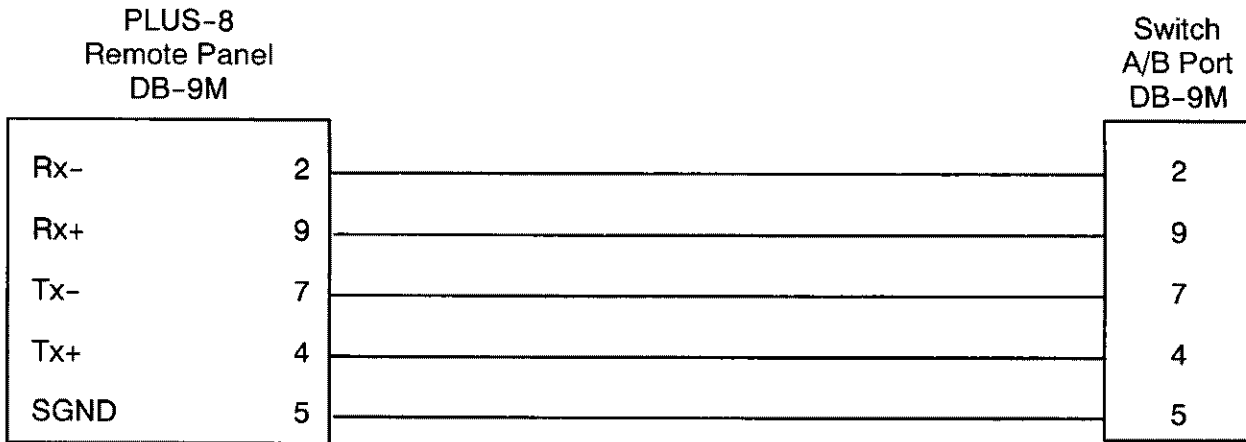

FIGURE 12-10. PLUS-8 PANEL TO SWITCH CABLE PINOUT (P1)
This pinout is to be used in conjunction with the Digi ClassicBoard 8 Octa Cable Assembly pinout as described in figure 12-13. If using the Stargate PLUS-8 peripheral interface board refer to figures 12-10 and 12-11.
- 19 Connect cable from the corresponding port of the peripheral interface board of the **B** PC-RCU system to port B on its corresponding A/B switch card. Repeat for each peripheral. Refer to figure 12-3 for diagram. If using the Star Gate PLUS-8 refer to figure 12-10 for pinout of this cable. If using the Digi International ClassicBoard 8 no additional cable is needed. Connect the corresponding 9-pin connector (figure 12-13) from the Octa-Cable Assembly directly to the corresponding port on the switch card.
- 21 Connect cable from the corresponding port of the peripheral interface board of the **A** PC-RCU system to port A on its corresponding A/B switch card. Repeat for each peripheral. Refer to figure 12-3 for diagram. If using the Star Gate PLUS-8 refer to figure 12-10 for pinout of this cable. If using the Digi International ClassicBoard 8 no additional cable is needed. Connect the corresponding 9-pin connector (figure 12-13) from the Octa-Cable Assembly directly to the corresponding port on the switch card.